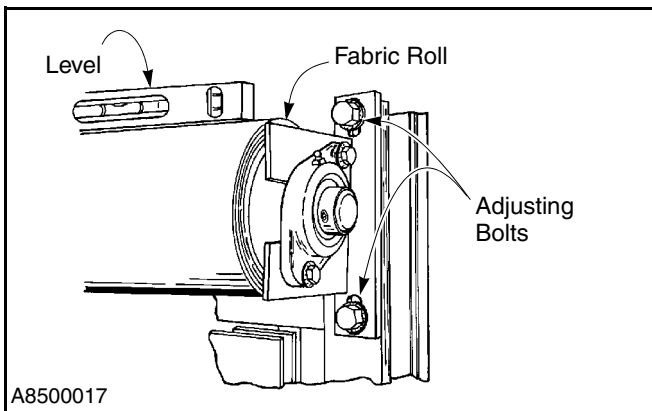

Figure 33
1. If the fabric is not tracking properly, verify that the fabric roll is level. Adjust as required. (See Figure 33.)